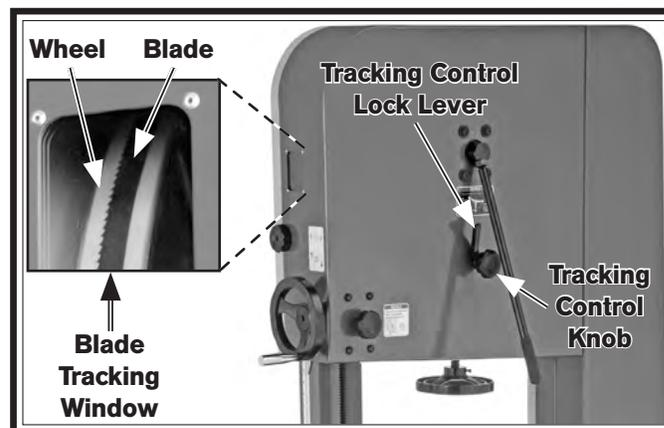

Figure 27. Blade tracking controls.
5. Loosen tracking control lock lever on back of bandsaw (see **Figure 27**).
6. Rotate upper wheel by hand several times and watch how blade rides on wheel (see **Figure 27**).
7. Adjust tracking control knob (see **Figure 27**) in small amounts and continue to rotate upper wheel by hand at the same time until blade consistently rides in center of wheel.